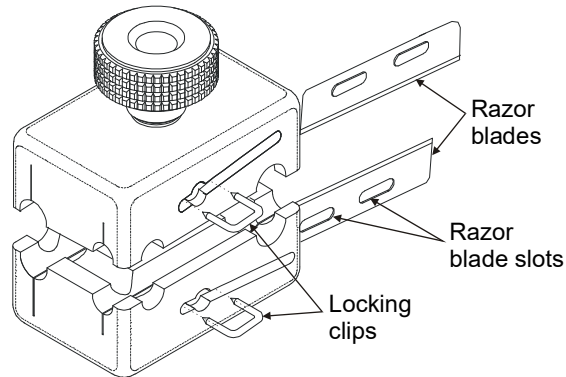

Figure 4. Razor Blade Replacement or Reversal for the 1050 A, B, C, and D Tools
- 6.4 Use a small screwdriver or needle nose pliers to remove the locking clip (Figure 4).